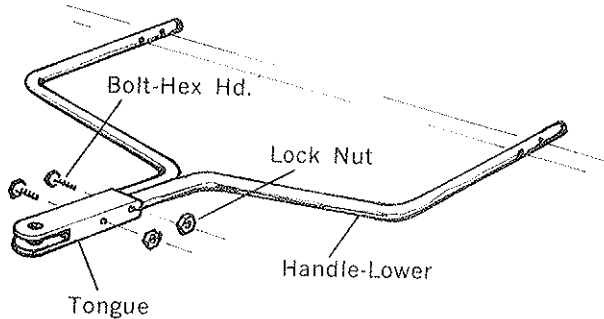

Figure 7
5. Fig. 7 - Using the Bolts, Washers and Nuts called for, assemble the Hitch leaving the Bolts loose.